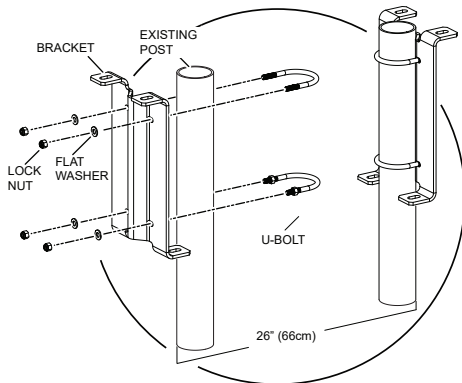

Figure 6. Brackets to Existing Posts
1. Measure distance between existing posts (outside to outside of posts) of 26 inches (66 cm). See Figure 6.
3. Secure brackets to posts using U-bolts (4), flat washers (8), and lock nuts (8). See Figure 6.